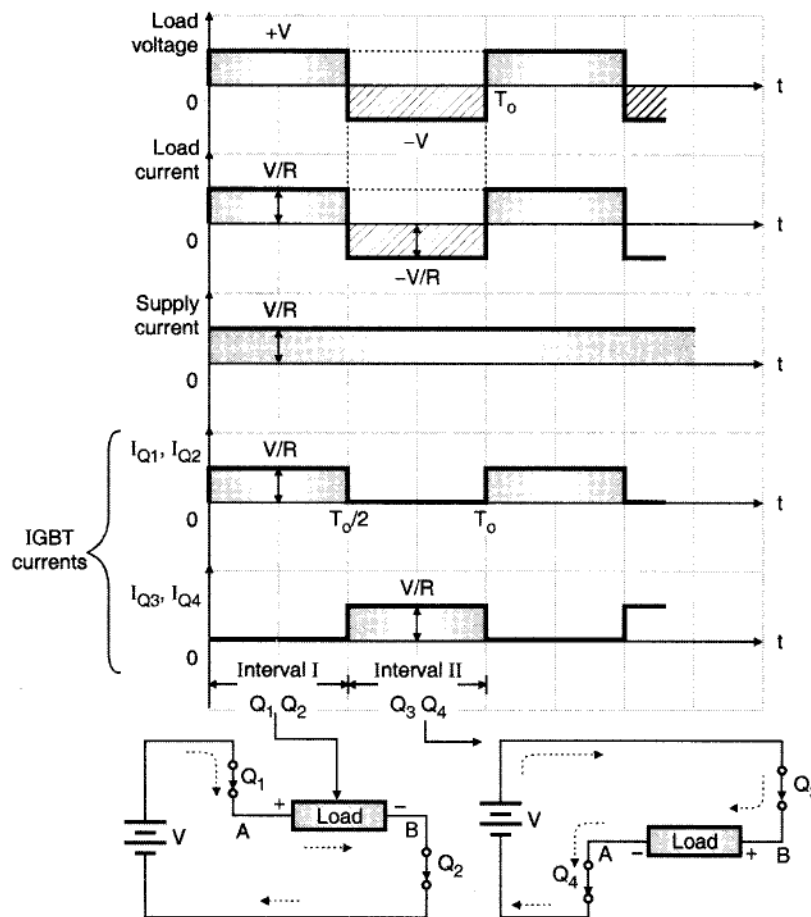

Fig. 3.12 : Voltage and current waveforms with resistive load
- The voltage and current waveforms with resistive load are as shown in Fig. 3.12
The important observations from the waveforms of Fig. 3.12 are as follows :